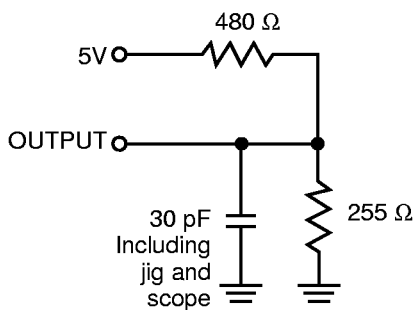

Figure 1a.
1. Test conditions assume signal transition times of 3 ns or less, timing reference levels of 1.5V, input pulse levels of 0 to 3.0V and output loading specified in Figure 1a.
Output Load	See Figures 1a and 1b
1. Test conditions assume signal transition times of 5 ns or less, timing reference levels of 1.5V, input pulse levels of 0 to 3.0V and output loading specified in Figure 1a.